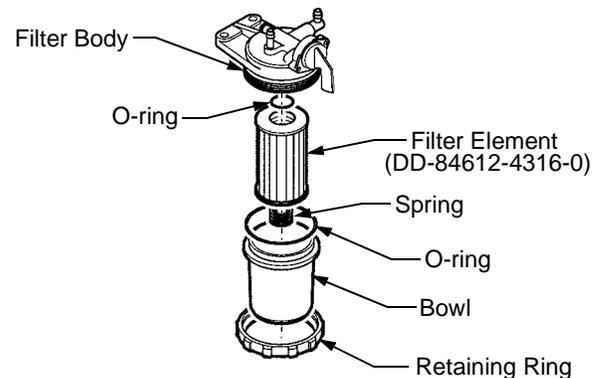

Figure 55
- Unscrew the retaining ring and remove the ring and fuel filter bowl from the filter. Use care not to lose the O-ring and spring. See Figure 55.